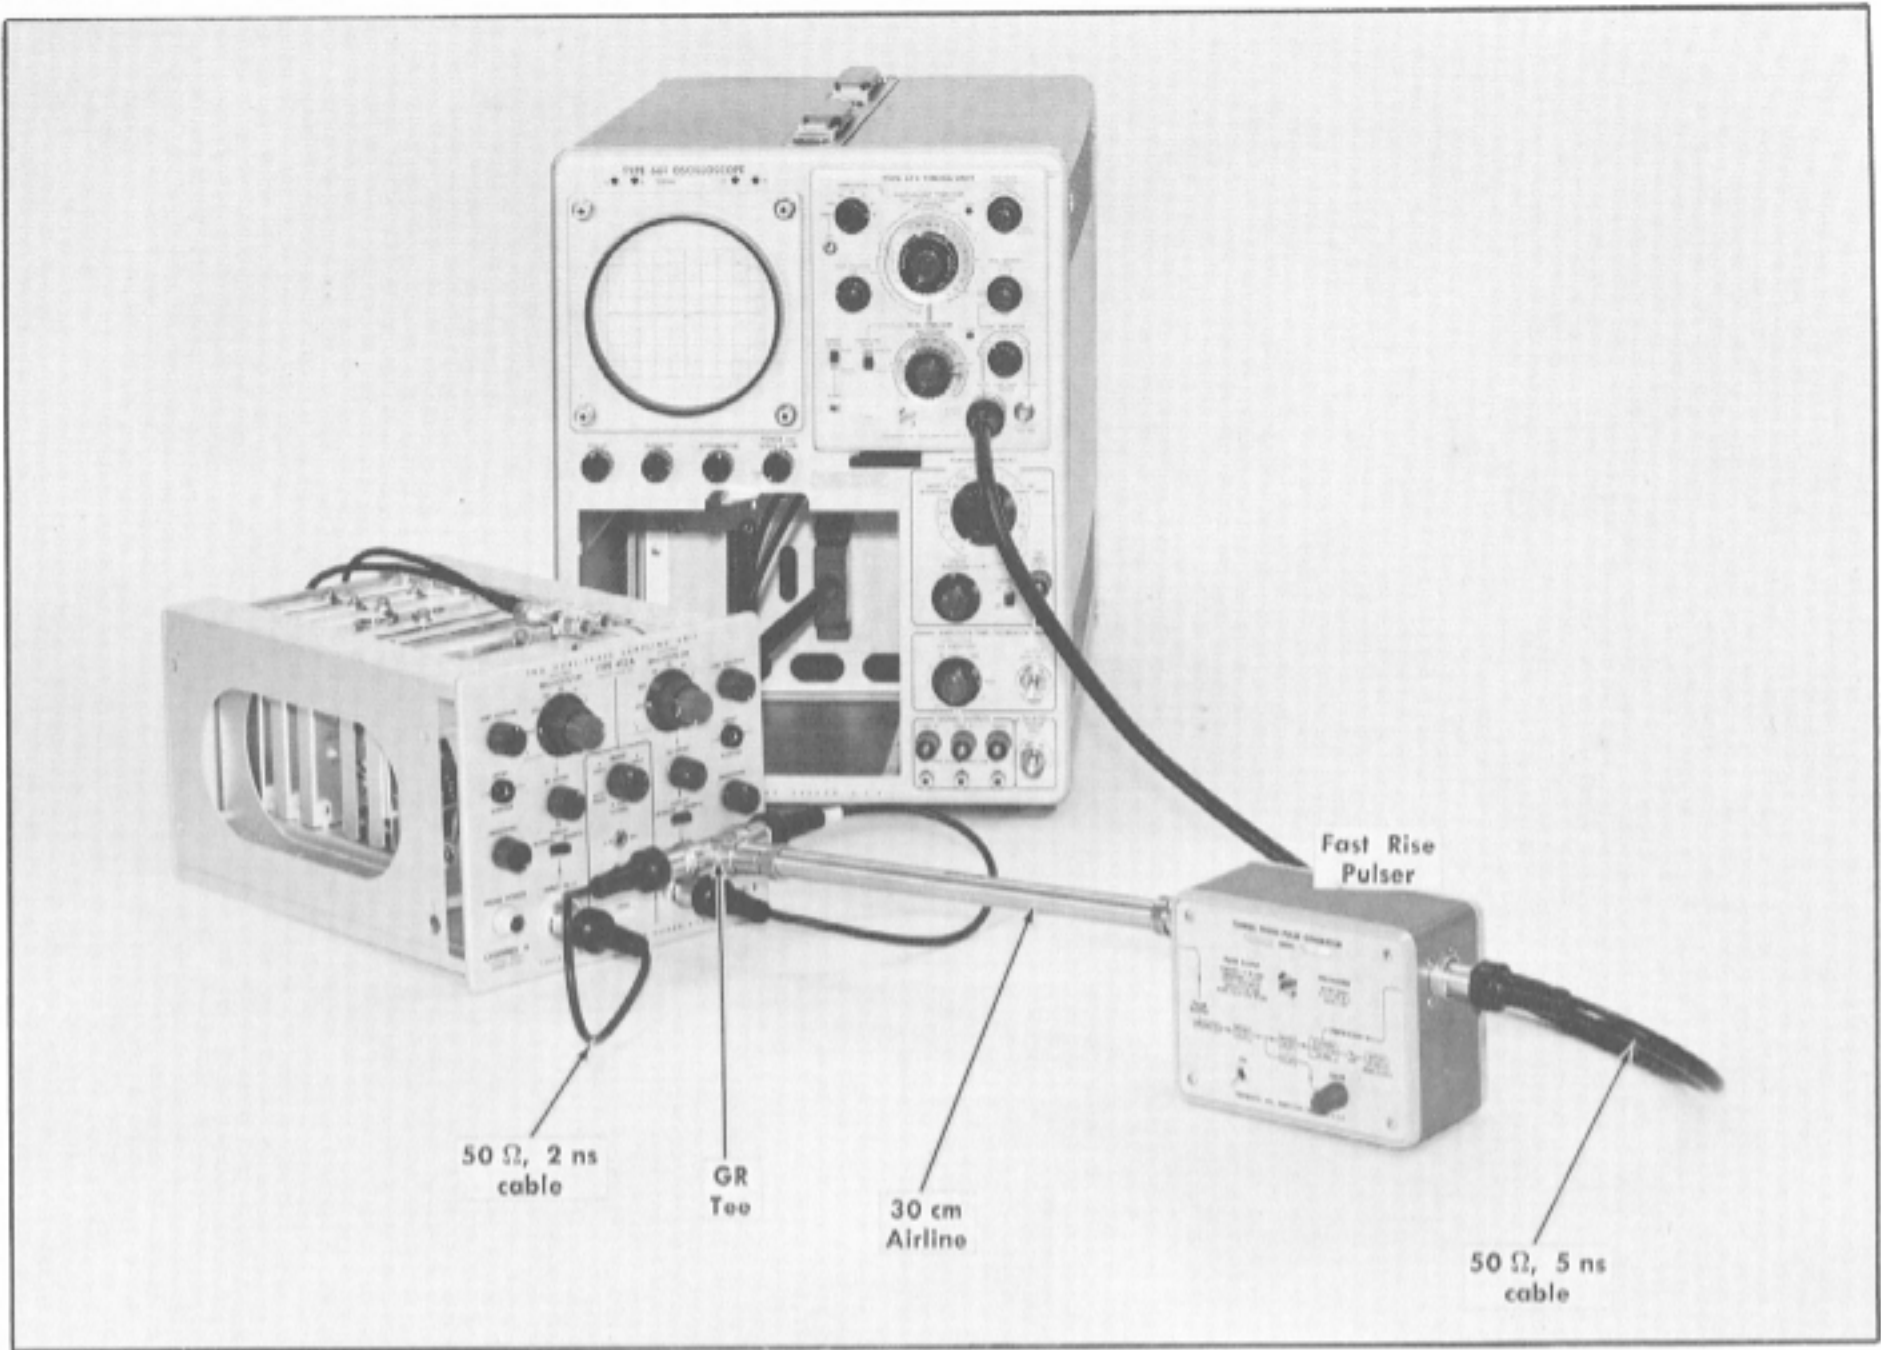

Fig. 6-33. Test equipment setup for step 22.
- a. Test equipment setup is shown in Fig. 6-33.